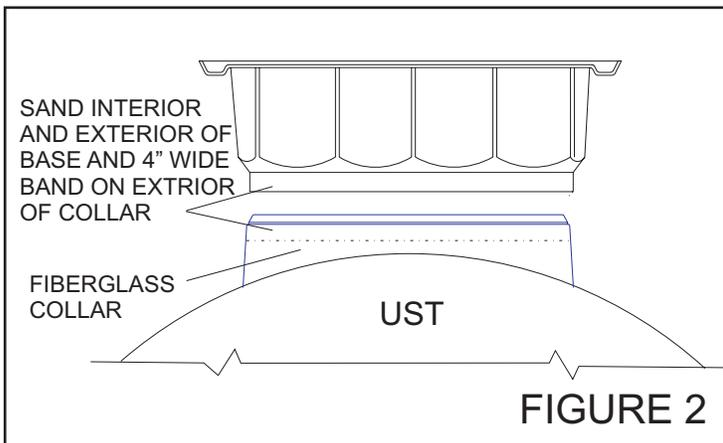

FIGURE 2
B. If your sump came from the factory with a bottom in it, first remove bottom by cutting it out 3/4" above the bottom, Refer to FIGURE 2
D. Sand a 4" wide band on the exterior of the UST collar where the base is to be joined. Refer to FIGURE 2